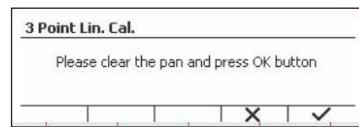

Figure 16
3. Press the softkey corresponding to the ✓ icon to initiate Linearity Calibration. (See Figure 16)